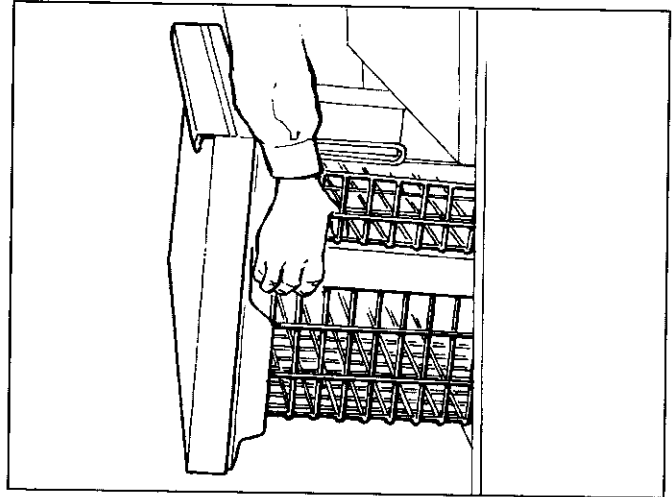

Figure 2-8. Drawer Assembly Removal
**NOTE:** Before attempting freezer drawer adjustment, remove freezer drawer assembly. Pull drawer assembly out, then lift at front while holding upper freezer basket in place. (See Figure 2-8)